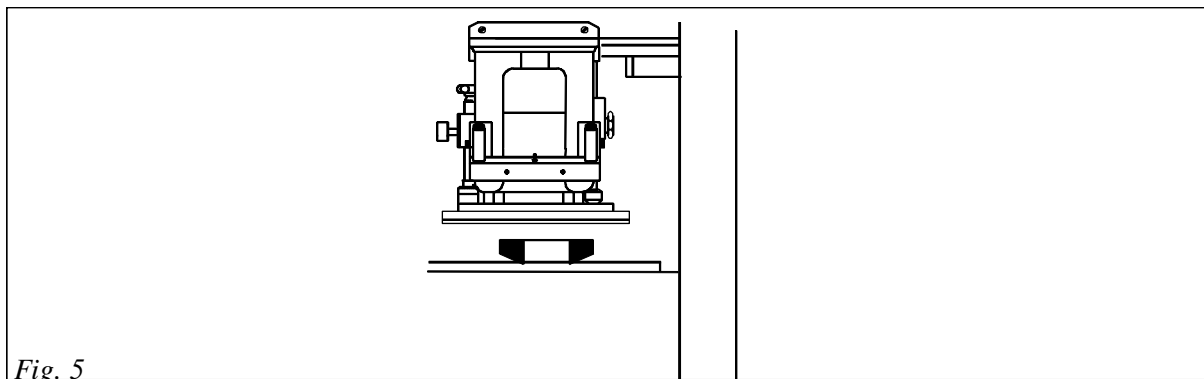

Fig. 5
- c) place the cutting-die between the cutting board and the striking plate without any material to be cut (direct contact with the cutting board) (Fig. 5)